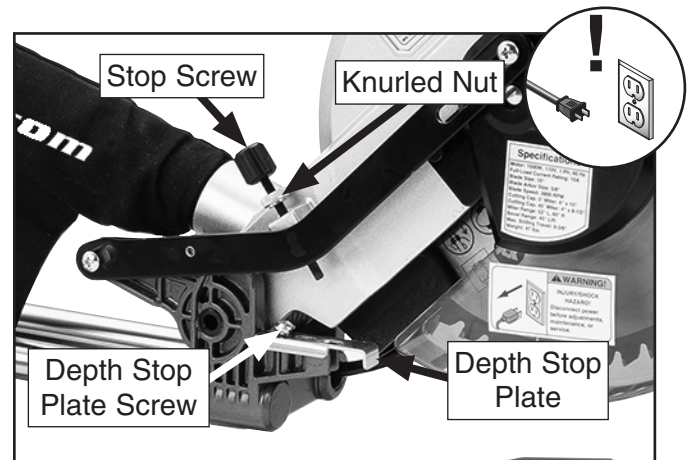

Figure 59. Depth adjustment hardware.
3. Loosen depth stop plate screw (see **Figure 59**) and slide plate forward until stop screw will not pass through plate hole when cutting head is pulled down. Retighten screw.
4. Pull cutting head down until blade teeth reach desired depth of cut. Hold cutting head in this position and turn stop screw until it contacts plate (see **Figure 59**).
5. Tighten knurled nut to secure setting (see **Figure 59**).